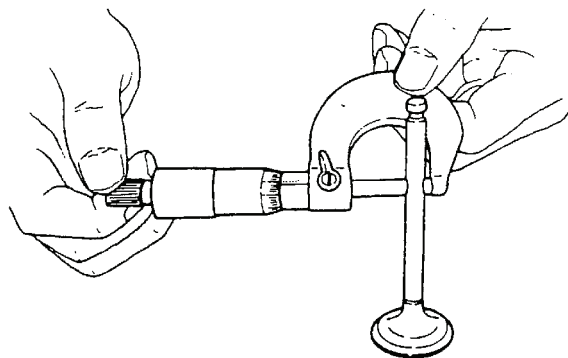

Figure 2. Valve Stem Measurement.
4. Measure the outer diameter of the valve stems replace if less than 0.21 inch (5.40 mm). See Figure 2.